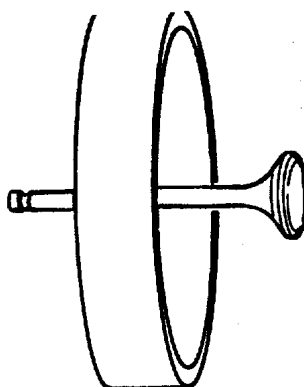

FIGURE 4-11. Valve Magnetic Crack Check.
- (d) Use the 12 inch (305 mm) diameter coil (FIG. 4-11) supplied with the magnaglo tester for coil shot method.